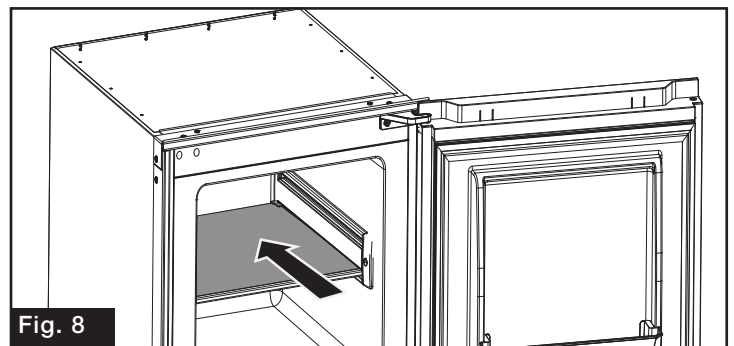

Fig. 8
5. Slide the shelf into an appropriate position and fix with screw. (Fig. 8)